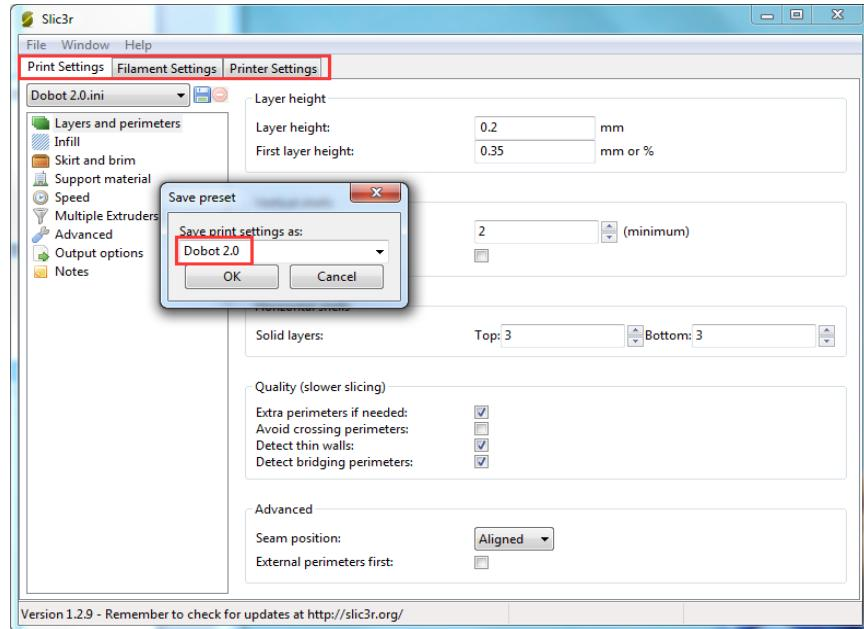

Figure 5.143 Save configuration file
- Save the **Printing Settings**, **Filament Settings** and **Printer Settings** tabs respectively after importing configuration sample, as shown in Figure 5.143.